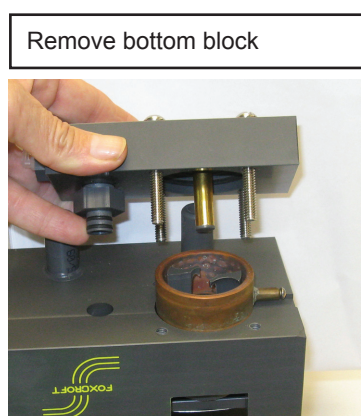
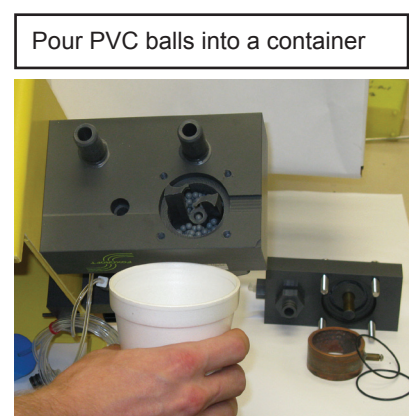

Figure 41
Figure 42
- 4b. Carefully pull the bottom block, together with the copper electrode ring, down from the top block (**Figure 41**). This should help prevent losing any of the 150 small PVC mixing balls contained within the copper ring electrode. Pour the PVC balls into a container (**Figure 42**). Proceed to step 11.
5. Remove the (4) mounting screws that hold the analyzer to the wall.
7. Remove the (4) 1/4"-20 slotted screws that fasten the lower block to the upper block.